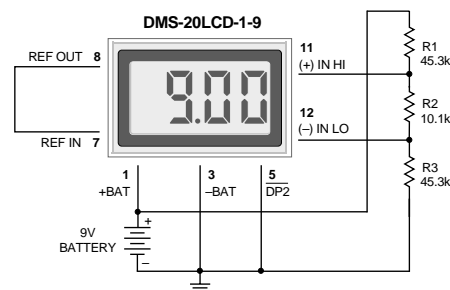

Figure 8. Power Supply Monitor (9V-Powered Models)
**6. Power Supply Monitoring:** A popular application for DATEL's low-power LCD meters is monitoring the supply voltage in battery-operated portable equipment. Figure 8 demonstrates how a 9V-powered DMS-20LCD can be used to monitor its own supply. The meter used is the DMS-20LCD-1-9. A three-resistor voltage divider is used to attenuate the battery voltage and also to satisfy the requirement that the input voltages applied to pins 12 and 11 be at least 1.5 Volts above and below the battery voltage applied to pins 1 (+BATTERY) and 3 (-BATTERY). The divider should be designed so that 1/10th the battery voltage falls across the inputs to the meter: